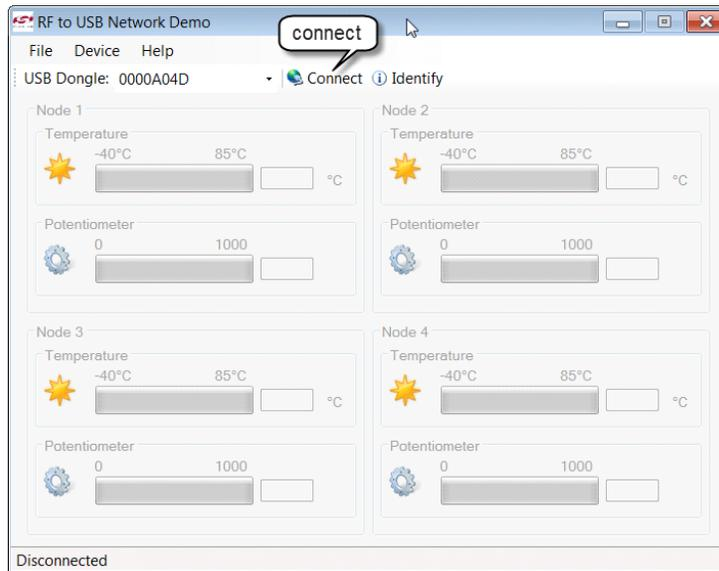

Figure 2. Click Connect
4. Click Connect to establish communication with the dongle as shown in Figure 2.